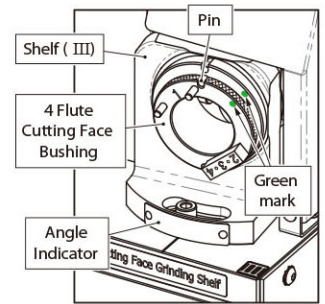

Fig. 9-3
3. Cutting Face Grinding Shelf (III) (Fig. 9-3)
- ① Adjust the Shelf (III) to 12°.
- ② Choose 4 Flute Cutting Face Bushing (12 deg).
- ① Adjust the Shelf (III) to 7°.
- ② Choose 4 Flute Cutting Face Bushing (7 deg).
- ① Adjust the Shelf (III) to 3°.
- ② Choose 4 Flute Cutting Face Bushing (3 deg).